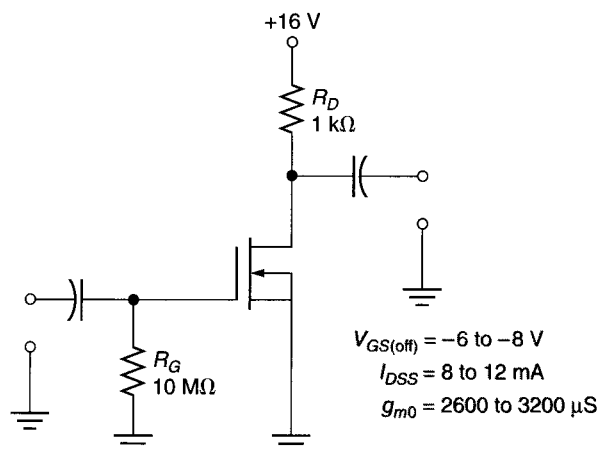

FIGURE 13.37
19. Determine the range of  $A_v$  values for the circuit shown in Figure 13.37.